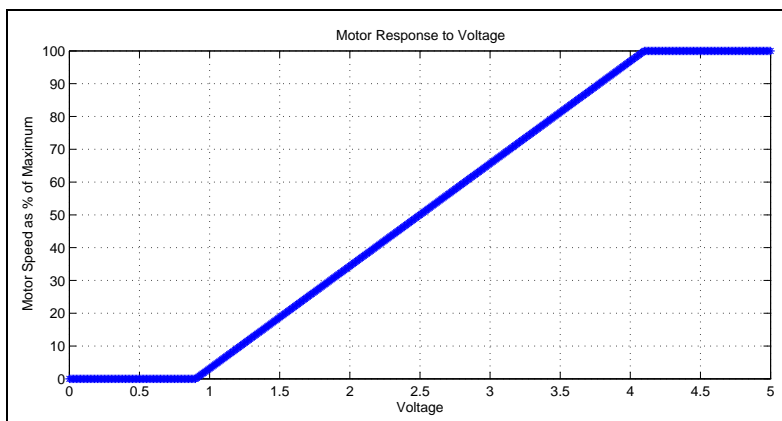

Figure 1. An approximate graph of motor speed vs. the applied voltage. Note that the response is approximately linear in the 1.0–4.0 volt range.
- (c) The PID control model assumes that actuators respond linearly to feedback. Our motors, however, do not respond linearly for all input voltages. For small voltages, the motor will not turn at all. And beyond a certain point, increasing the voltage will not increase the speed of the motor. See Figure 1 for a graph that you can assume approximately models our motors.